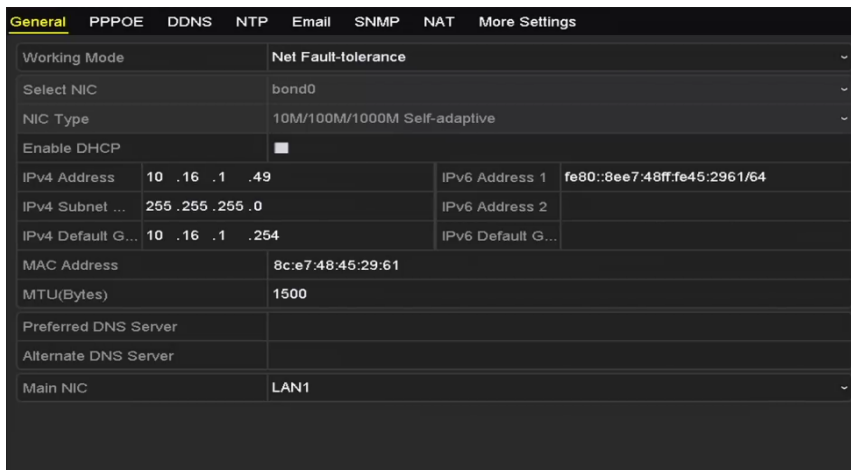

Figure 11. 19 Network Settings Interface
2. Set the IPv4 Address, IPv4 Subnet Mask, IPv4 Gateway and the Preferred DNS Server in the Network Settings menu, as shown in Figure 11. 19.